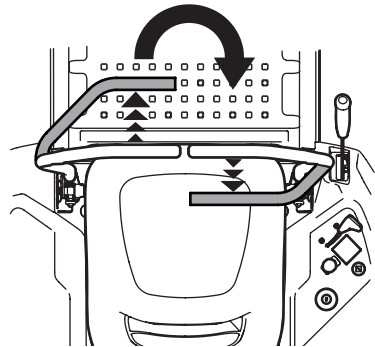

Figure 34
2. To turn clockwise, move the left lapbar drive control lever forward while simultaneously moving the right lapbar drive control lever rearward (Figure 34).